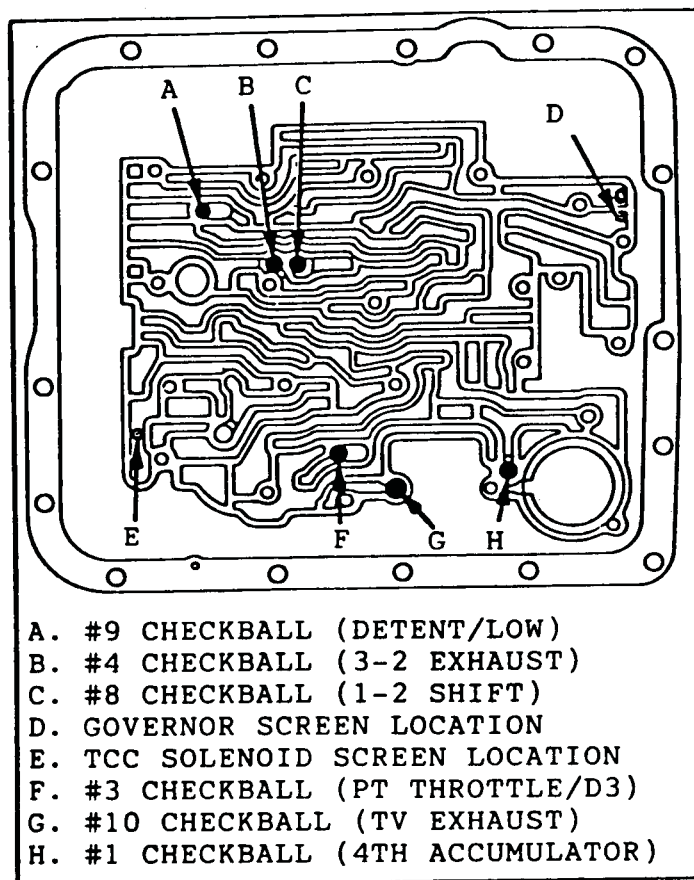

Figure 107
7. Install governor screen into the case. See Figure 107 for location.
8. Install converter clutch screen into the case. See Figure 107 for location.
9. Install five (5) checkballs into the case in the locations shown in Figure 107.
NOTE: We recommend that you omit the number 10 (TV Exhaust) check ball. This will be the largest of the checkballs. Refer to Figure 107.